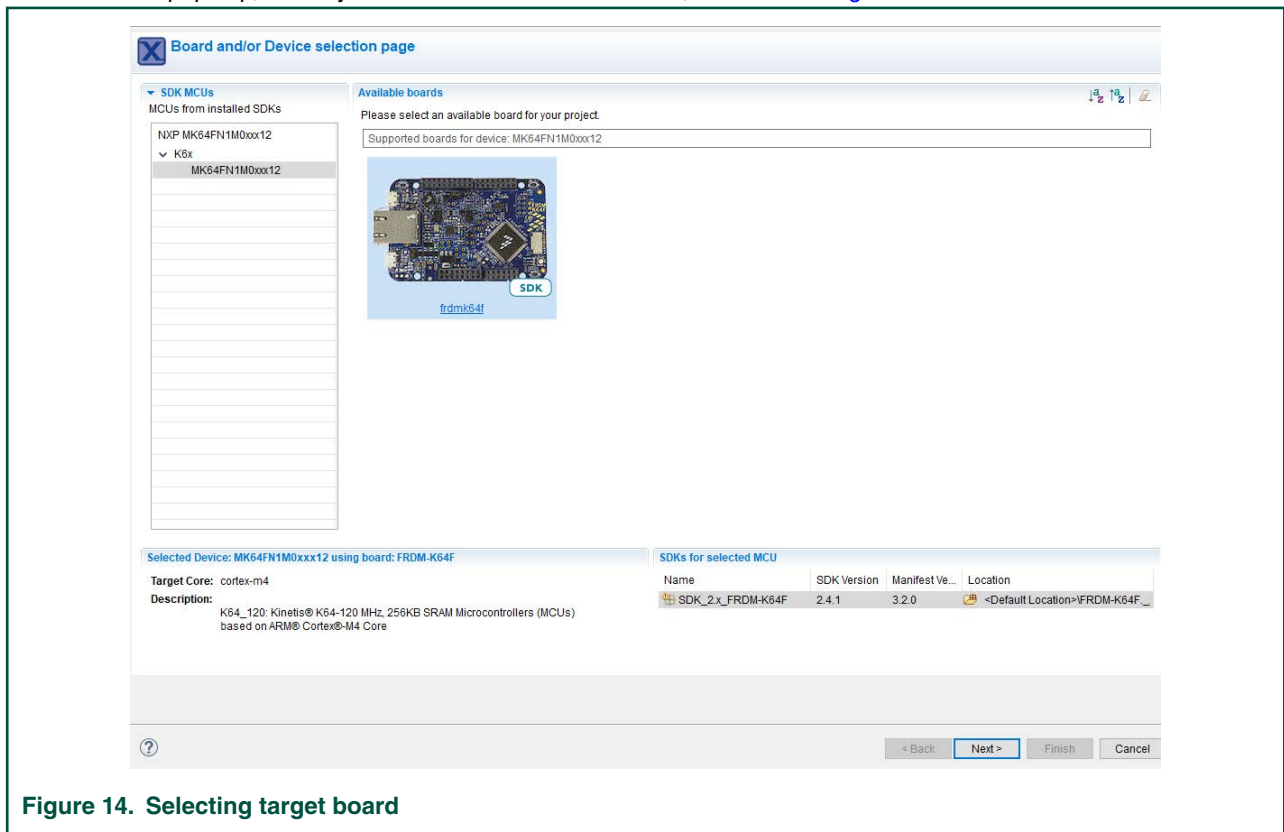

Figure 14. Selecting target board
3. A new window pops up, where you can select the desired board, as shown in Figure 14.